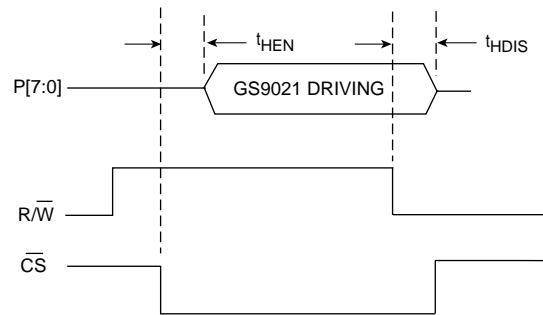

Fig. 8b HOSTIF Parallel Port Output Enable and Disable Times
- C) The GS9021 drives the P[7:0] bus when the  $R/\overline{W}$  pin is HIGH and the  $\overline{CS}$  pin is LOW. At all other times, the P[7:0] port is in a high impedance state. The host interface enable and disable times are shown in Figure 8b and are specified in the AC timing information. In this figure, the rising/falling edges of  $R/\overline{W}$  and  $\overline{CS}$  are not aligned to illustrate that the state of the P[7:0] I/Os is only a combinatorial function of the  $R/\overline{W}$  and  $\overline{CS}$  pins.